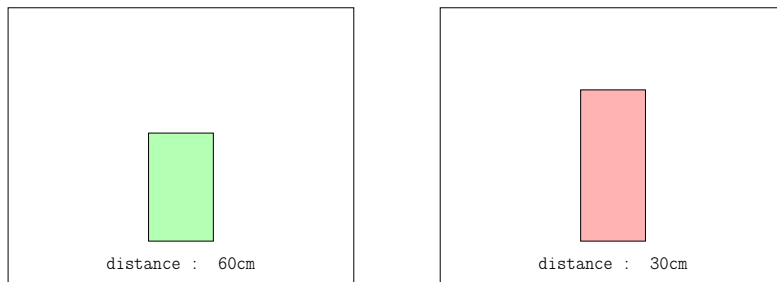

Figure 3: display example: sensor returns a long distance at left and a shorter at right
The distance to the obstacle is given by the duration of the Echo pulse. We use the EXTI peripheral to detect rising/falling edges, and a timer (TIM7) as a stopwatch to get the pulse width. The measure is stored in a global variable (figure 3).
**Question 4** *Use the text and graphic functions of the TFT display to make a user interface as shown in figure 3. The bargraphs gets higher when the distance to the obstacle gets shorter. You can use colors.*